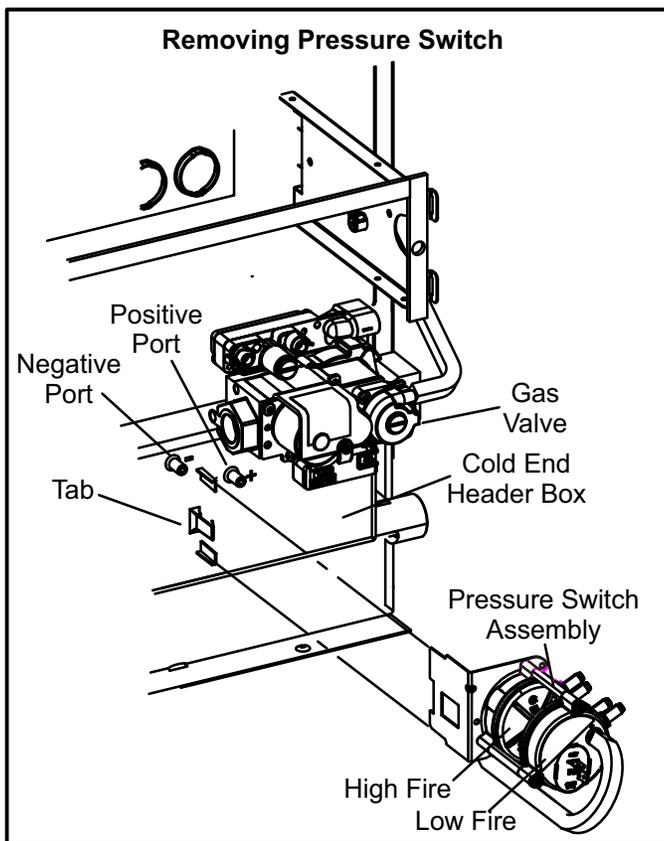

FIGURE 1
5. -Remove the pressure switch by carefully pressing the tab which secures the switch assembly to the cold end header box. See figure 1.